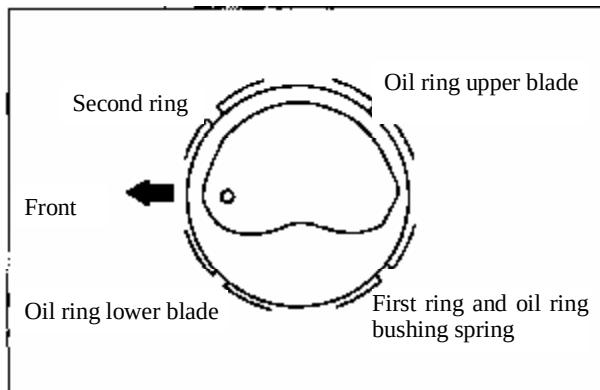

Figure 3-35 Opening Positions of Piston Rings
3.3.6 After three piston rings are installed onto ring grooves, their opening positions should be interleaving as shown in Figure 3-35 with marks on first ring and second ring facing upwards.